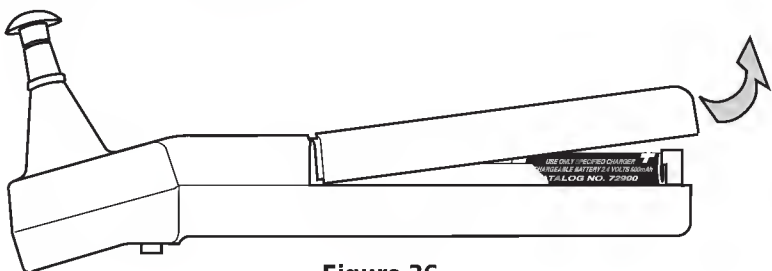

Figure 36
3. Remove the battery cover by lifting the bottom of the cover away from the probe tip. See **Figure 36**.